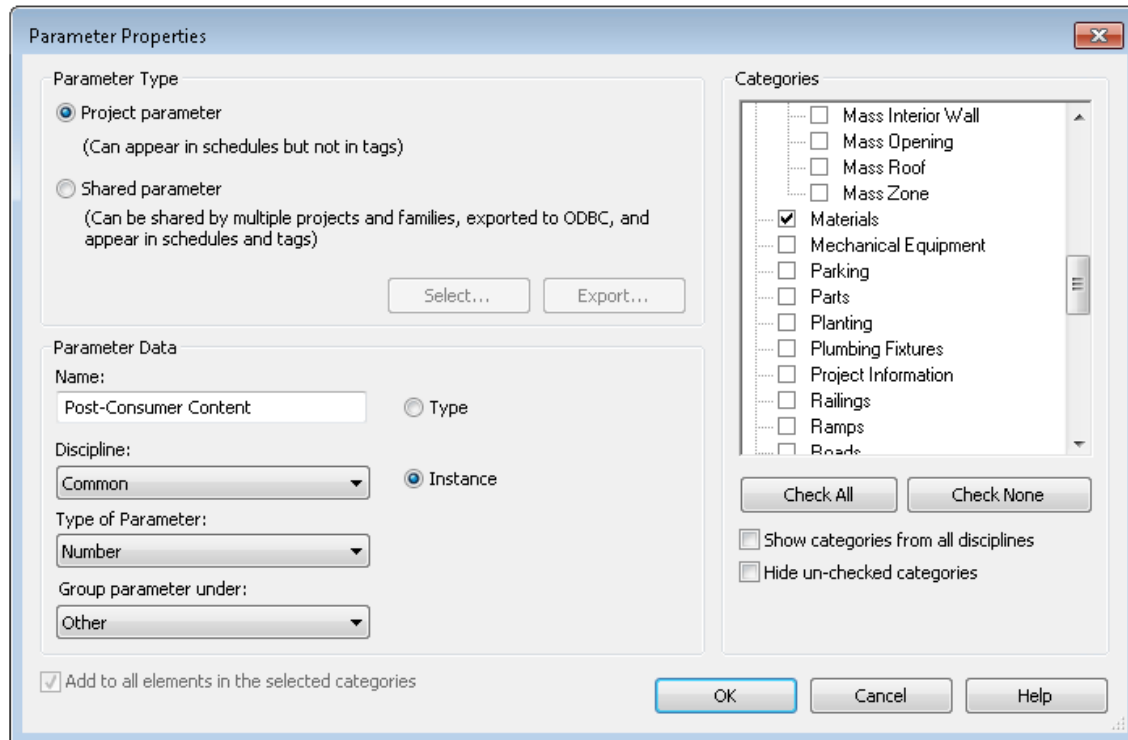

FIGURE 4-4.1 Creating a project parameter
4. Enter the information as shown in Figure 4-4.1 below.